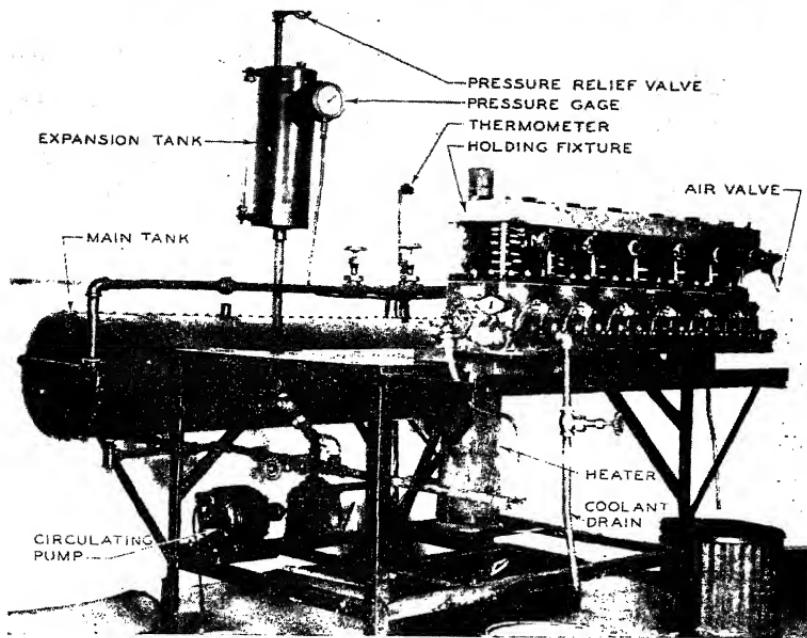

FIG. 13.—Test stand for checking leaks in the cooling system.
**Coolant Leaks.**—Leaks in the cooling system are checked on the stand, as in Fig. 13. Here the cylinder block is bolted down firmly. Connect the coolant heating system until the temperature reaches 250°F., then apply 40 lb. of air pressure. Inspect all points where leaks might possibly occur. Before removing the jacket, if this should be found necessary, measure the cylinder bore and examine it for surface damage. If the bore is more than 0.010 in. out of round, it should be replaced. Note the size to be compared with the replacement cylinder.